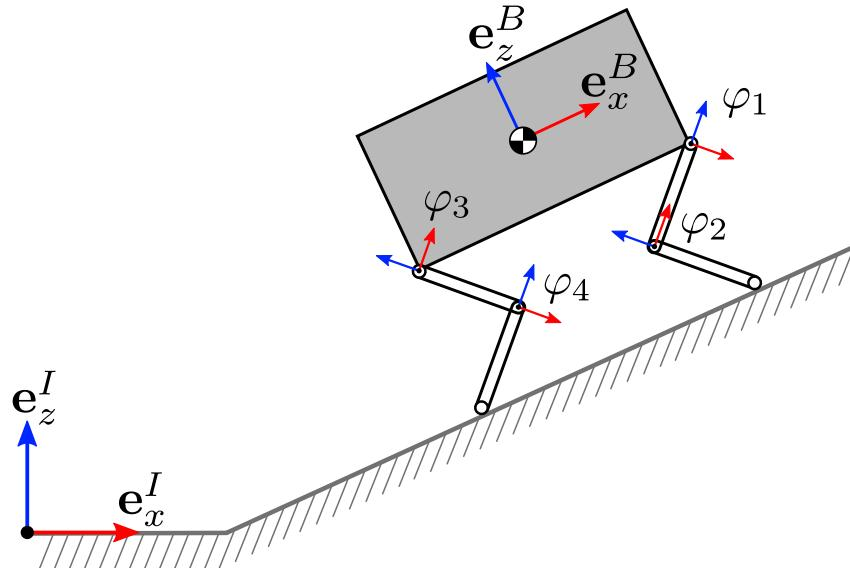

Figure 3: Planar legged robot standing on an incline.
In this exercise, consider the case of a planar legged robot with two legs and 4 joints overall. The robot consists of a rectangular base and legs comprised of links of same length, as is shown in Fig. 3. The configuration of the robot is parametrized by a vector of generalized coordinates:
- (1) The robot in Fig. 3 can have different contact configurations (without slipping). Analyze the number of independent contact constraints and the number of uncontrollable degrees-of-freedom in each case. Fill in the table below. [1 pt]
- (3) The equation of motion for the system in Fig. 3 can be written as $\mathbf{M}\ddot{\mathbf{q}} + \mathbf{b} + \mathbf{g} + {}_I\mathbf{J}_c^\top {}_I\mathbf{F}_c = [\mathbf{S}^\top]\boldsymbol{\tau}$. [1 pt]